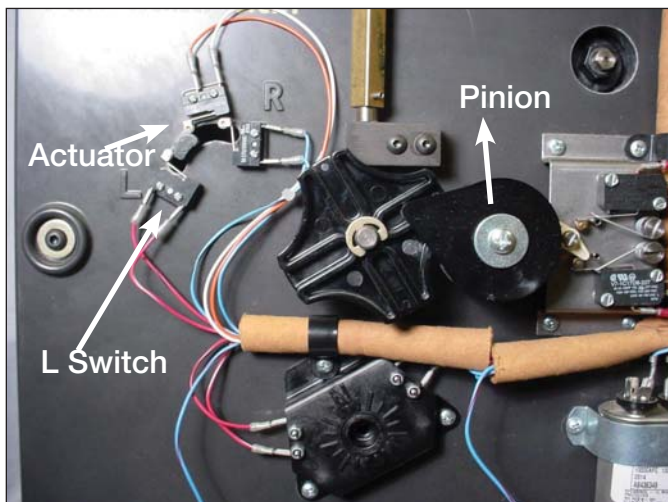

Figure 41.
- Position the position actuator arm between the center position and L by rotating the pinion counter clockwise. See Figure 41. This will allow for mounting the micro switches without interference with the micro switch arms.